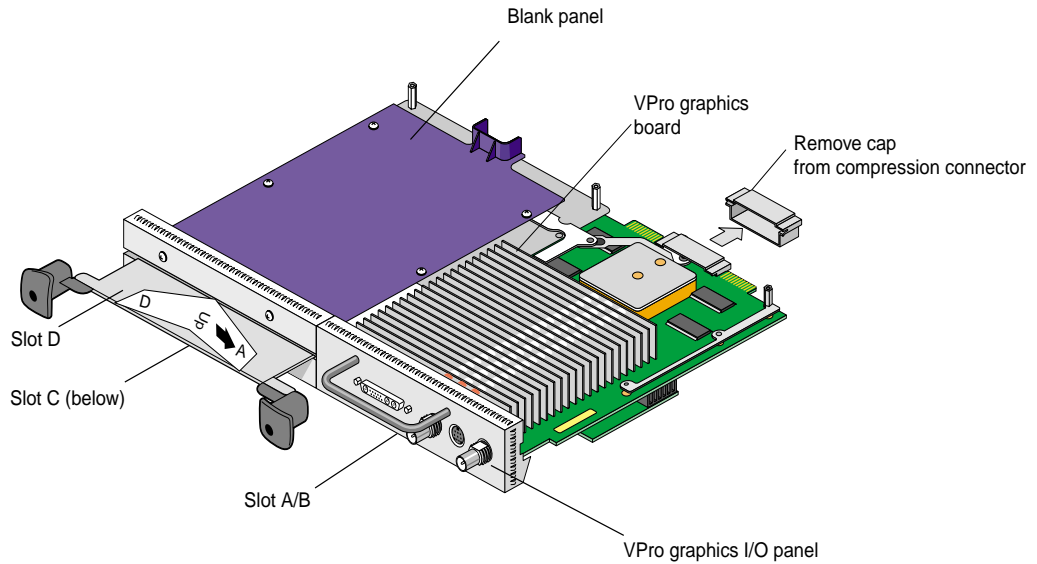

Figure 13 XIO Tri-Module
When the XIO Tri-Module is out of the chassis, the sliding handles must protrude, as shown in Figure 13. If they do not protrude, pull them out about an inch.
4. Remove the cap from the compression connector, as shown in Figure 13.